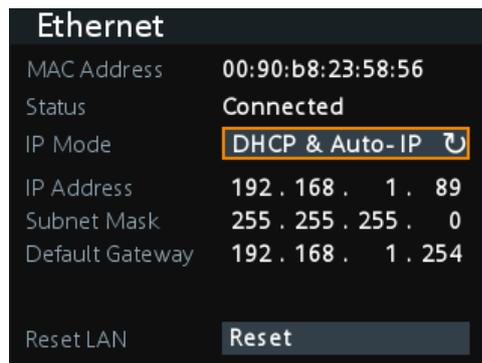

Figure 5-2: Ethernet settings dialog
3. **NOTICE!** If the R&S NGE100B cannot obtain an IP address automatically, or cannot establish the connection, the status shows "Disconnected" in the Figure 5-2. Possible reasons are that the LAN does not support DHCP or requires a specific TCP/IP configuration, or that the connection is missing.
If switched on and connected, the R&S NGE100B indicates the address information and LAN parameters in the Ethernet setting dialog. See Figure 5-2.